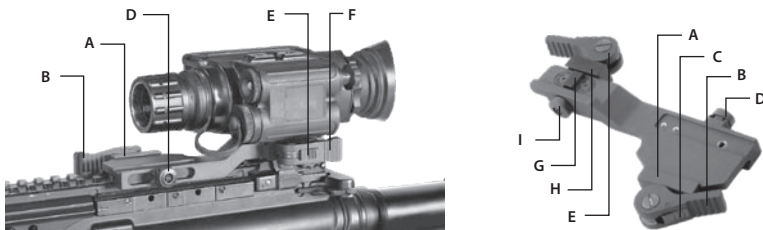

FIGURE 3-5. MOUNTING THE SPARK TO A WEAPON WITH A QUICK-RELEASE PICATINNY MOUNT ADAPTER
1. While pushing down on the lever holder (C), turn the lever (B) backwards to loosen the QRM clamping device (A).
2. Install the QRM on the weapon rail by inserting the stop (not shown in Figure 3-5) into one of transverse slots of the weapon rail.
3. To secure the QRM onto the weapon rail, turn the lever (B) forward. Secure the clamping device (A) tightly to the weapon rail. To adjust the force of the lever clamp, loosen or tighten the nut (D) as necessary:
- When the clamping device (A) unlocked, push the lever holder (C) so that the nut (D) gets out of its hollow.
- To tighten/loosen clamping device, turn the nut (D) CW/CCW, respectively, by one-two increments (the eight-sided nuts of the AIM clamping devices fit their hollows only if turned in one of the discrete positions), when the holder (C) pushed. Just as the holder (C) released, backmoving springs makes the nut (D) get back into its hollow.
4. While pushing down on the lever holder (F), turn the lever (E) forward.
5. Install the Spark on the QRM rail by inserting the stop (G) into the transverse slot of the unit rail.
6. Attach the Spark to the QRM rail by turning the lever (E) backwards. Secure the QRM clamping device (H tightly to the Spark rail. To adjust the force of the lever clamp, loosen or tighten the nut (I) as necessary.